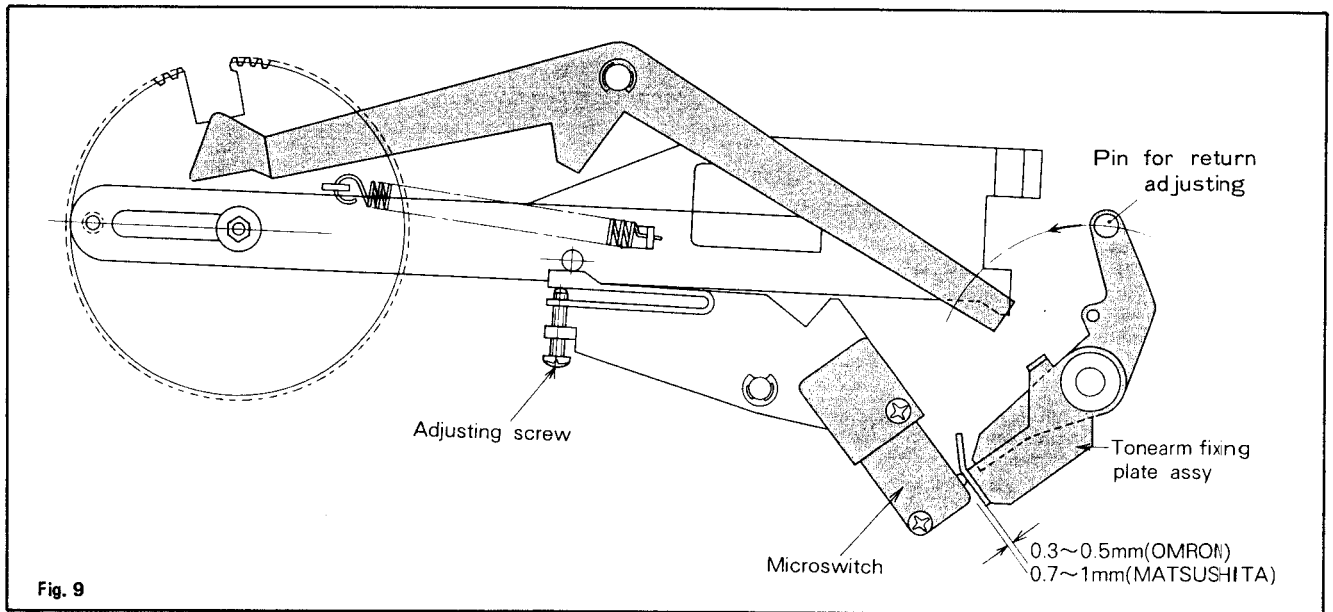

Fig. 9
- (a) Adjust the distance between the micro-switch and the tonearm fixing plate for the distance specified in Fig. 9. Note that two different types of micro-switches are used in this model and that each type requires a different gap.